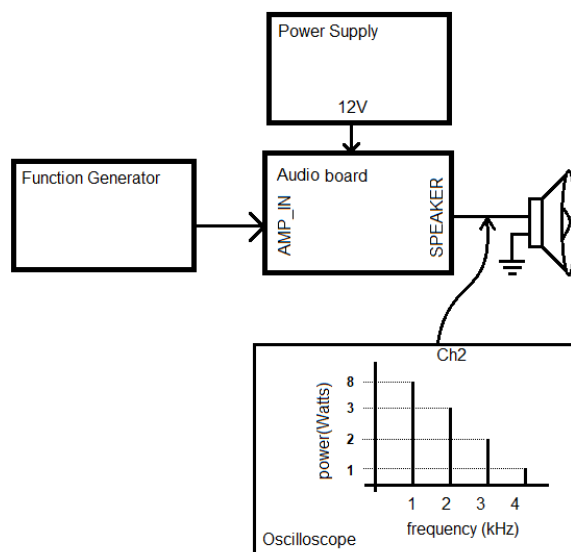

Figure 1: Setup to measure THD of the Audio Amplifier.
A good audio amplifier should faithfully reproduce audio input to the speaker. One way to measure this is quality is total harmonic distortion (THD). THD measures the power of the harmonics over the power of the fundamental frequency as a percentage. You will measure THD by applying a sine wave at some input frequency and measure the energy contained in the fundamental frequency and all higher harmonic frequencies. Let's explore these ideas with the help of Figure 1.
The Function Generator in Figure 1 is sending a 1kHz sine wave into the AMP\_IN of the Audio board. - the amplitude of the input waveform is unimportant. We will assume that the function generator generates perfect sinusoidal inputs (according to the Rigol DG1022Z datasheet, its THD is less than
0.2%). It's important that you power the Audio board using the bench power supplies – this will reduce spurious noise injected into your Audio board through the power input. The oscilloscope in Figure 1 will examine the output of the Audio board using its FFT function. This will let us measure the power of the fundamental 1kHz output and the unwanted harmonics at 2kHz, 3kHz and 4kHz. Using the (unrealistic) values in the Figure 1, the fundamental power is 8 Watts and the sum of the power in the harmonics is  $3W+2W+1W = 6$  Watts. Thus, the ratio of the power in the harmonics over the fundamental is  $6W/8W = 0.75$ . Since THD is measured as a percentage, we must multiply this value by 100, yielding a THD of 75%. This means that 75% of the amplifier's power is being used to generate spurious signals – making a very poor audio amplifier. The oscilloscope in Figure 1 is configured to measure the FFT of the output. The question is how can you extract the power information from the FFT values? Good question, let's explore this.
We start by transforming the definition of THD into a mathematical form using the definition of THD given earlier in Equation 1 – we will convert this ratio into a percentage in a later step. Note that the resistive load  $R$  is the  $8\Omega$  speaker in Figure 1.
The  $P_i$  terms in Equation 1 are the power of  $i^{\text{th}}$  harmonic.  $P_F$  is the power in the fundamental, 1kHz in Figure 1. In the example from Figure 1  $P_F = 8W$  and  $P_2 = 3W$ . In your first EE course you learned that the average power delivered to a resistive load of  $R$  ohms by a waveform with RMS voltage  $v_{RMS}$  is given by Equation 2.
The  $v_F$  term in Equation 3 is the RMS voltage of the fundamental (1kHz in Figure 1) and the  $v_i$  terms are the RMS voltages of  $i^{\text{th}}$  harmonic. While equation 3 may look unusable, you will use the oscilloscope to measure each of the  $v_i^2/v_F^2$  terms using decibels relative to the carrier, dBc, units. The dBc units measure the power of a harmonic (2kHz or 3kHz or 4kHz in Figure 1) relative to the carrier (1kHz in Figure 1). The mathematical definition of dBc is given by Equation 4.
Where  $P_F$  is the power delivered by the carrier (what we are calling the fundamental frequency, 1kHz in Figure 1) and  $P_i$  is the power delivered by the  $i^{\text{th}}$  harmonic. You will use the FFT mode of the oscilloscope to indirectly measure the dBc value of each harmonic (2kHz or 3kHz or 4kHz in Figure 1). In order to do this, you need to transform the dBc value into the ratio of harmonic power